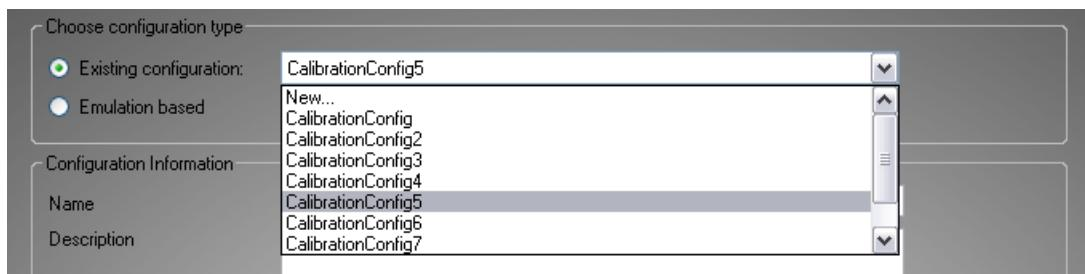

Figure 237 Selecting existing alignment configuration.
- Previously defined configuration could be selected from dropdown menu (see Figure 237).